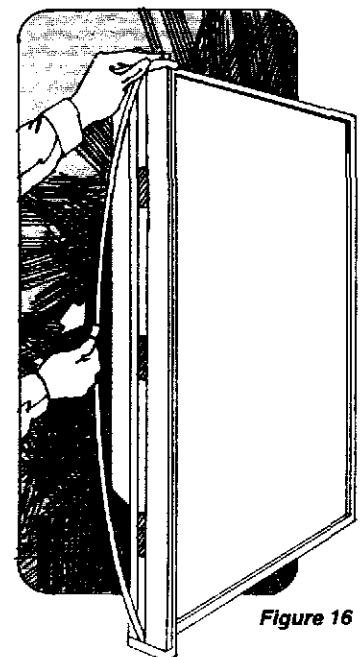

Figure 16
**A)** To install front panels on your Sub-Zero, the door handles must be removed. The handle screws are hidden by a magnet backed trim molding. Remove the molding using a piece of tape to pull it away from the handle and expose the handle screws. **NOTE: the molding will bend at center allowing removal as in Figure 16.**
**NOTE: The trim molding will bend out at the center allowing removal as shown in Figure 16.**